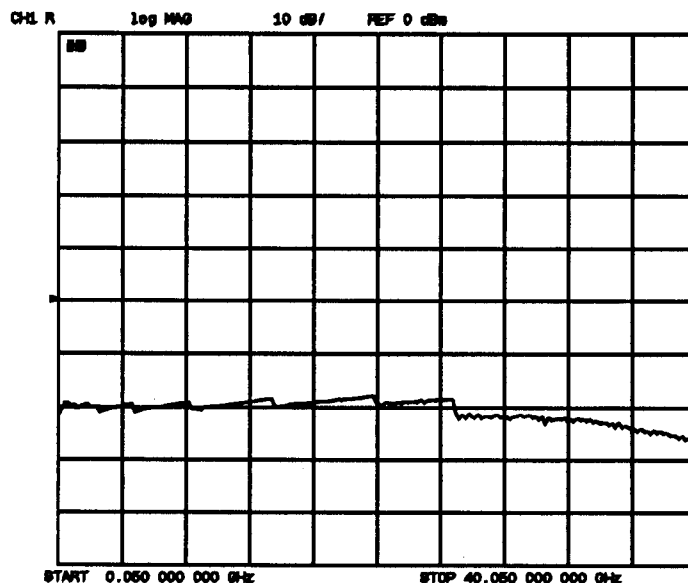

Figure 7–1. Typical Trace
12. Connect an open or short to port 1. Press **A** to look at input A (port 1). The trace should resemble Figure 7–1 below, with a minimum of about -50 dB at 50 MHz and a value around -30 dB over the flat section.